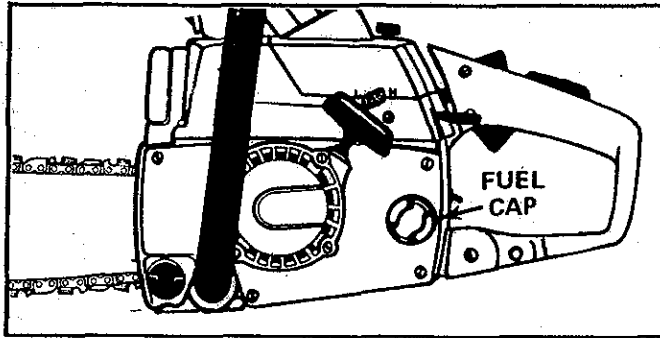

Figure 16
- e. **Avoid over filling the fuel tank. Allow 3/4 inch for expansion. Tighten Fuel Cap securely.** Figure 16.